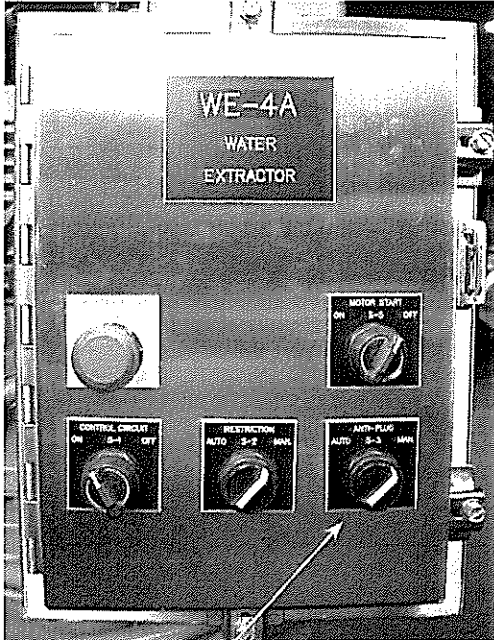

Fig. 33 ANTI-PLUG switch MANUAL
1. Turn the CONTROL CIRCUIT switch to ON and ANTI-PLUG switch to MANUAL (fig.33). Allow the plunger to attempt to complete its stroke.